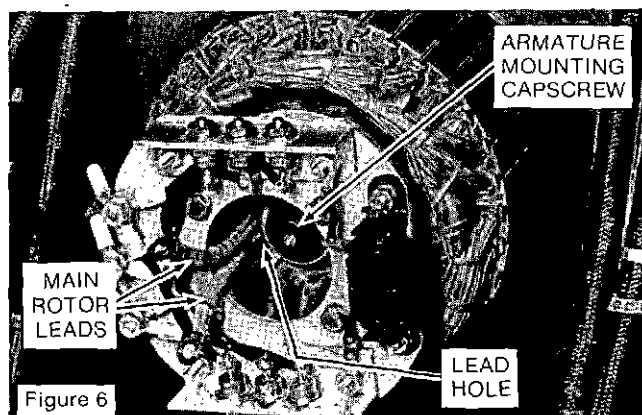

Figure 6
3. Disconnect both main rotor leads coming out of the aluminum standoff plate lead hole from the rectifier aluminum angle. (See Figure 6.)